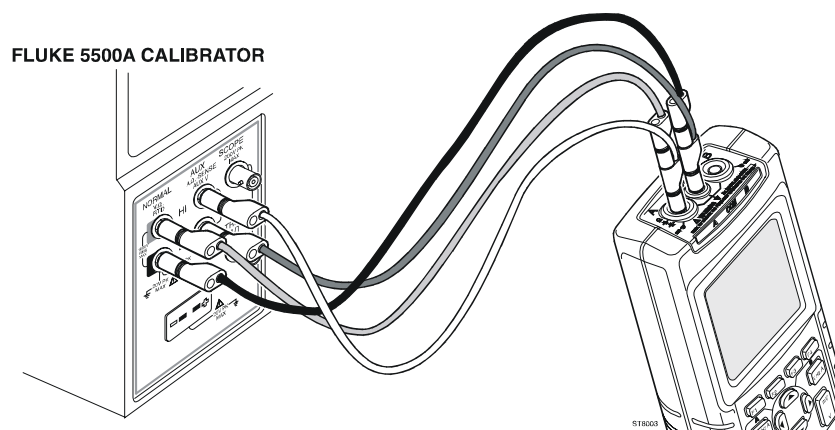

Figure 4-7. Test Tool Input 1 to 5500A Normal Output 4-Wire
1. Connect the test tool to the 5500A as shown in Figure 4-7.
1. Connect the test tool to the 5500A as for the previous test (see Figure 4-7).
1. Connect the test tool to the 5500A as for the previous test (see Figure 4-7). Ensure that the 5500A is in Standby.